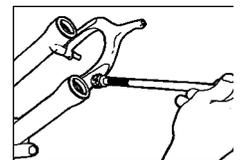

Fig. 5
16. Apply Judy Butter to the surface of the four bushings, the inside of the lower tubes, and the pocket in each Resi-wiper seal. Use a socket extension wrapped in cloth tape and dipped in Judy Butter to reach inside the lower tubes (Fig. 5). For INDY SL, lube inside of upper tubes from the bottom for a distance of 4.5"